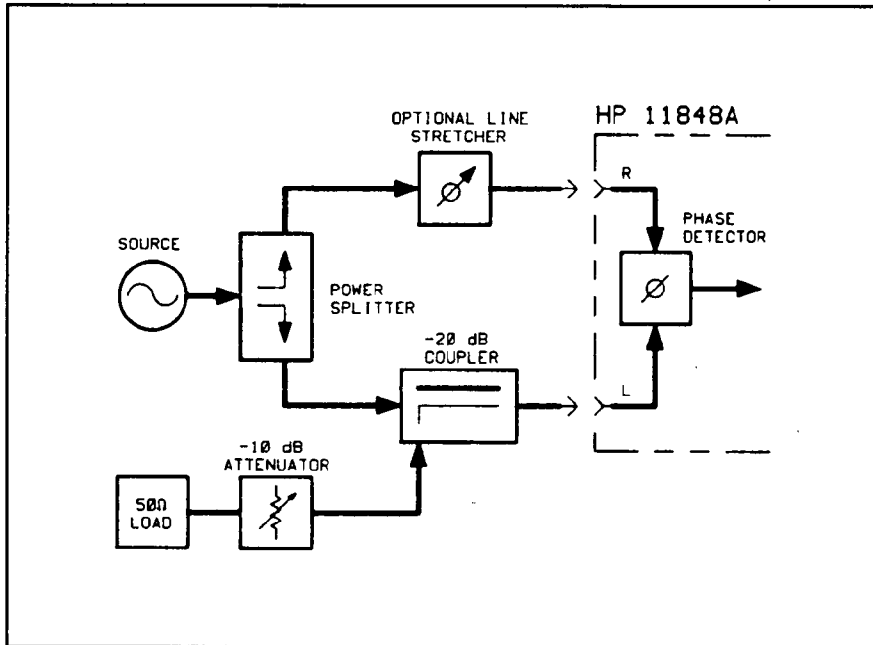

Figure 2-16. Single-Sided Spur Calibration Setup
1. Connect circuit as shown in figure 2-16 and tighten all connections.